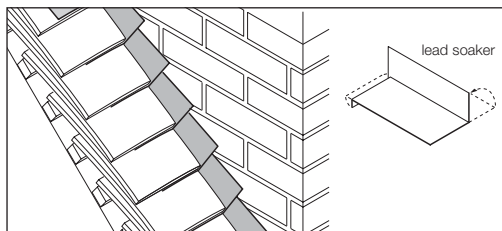

Fig 67 – Lead soakers
- 3 Form Code 3 lead soakers with an upstand of 75mm to place against abutment. They should be 175mm wide and 190mm long allowing a 25mm downturn over back of tile (Fig 67).